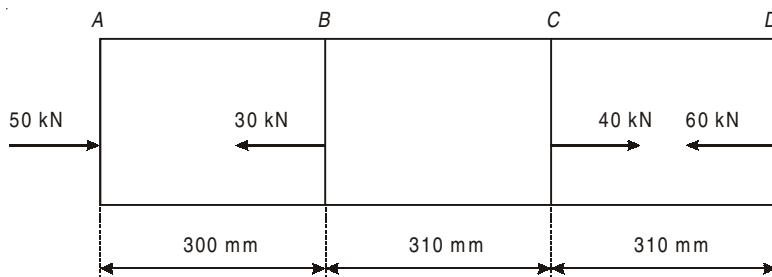

Fig. 1.22
- 1.27.** A steel bar subjected to loads as shown in Fig. 1.22. Determine the change in length of the bar ABCD of 18 cm diameter. $E = 180 \text{ kN/mm}^2$.